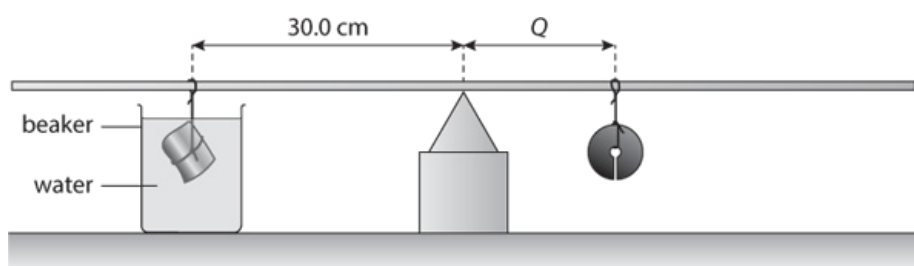

Figure 4.3: Similar to Figure 4.2, but with metal sample in beaker of water.
- 2 Position the beaker of water as shown in Figure 4.3.